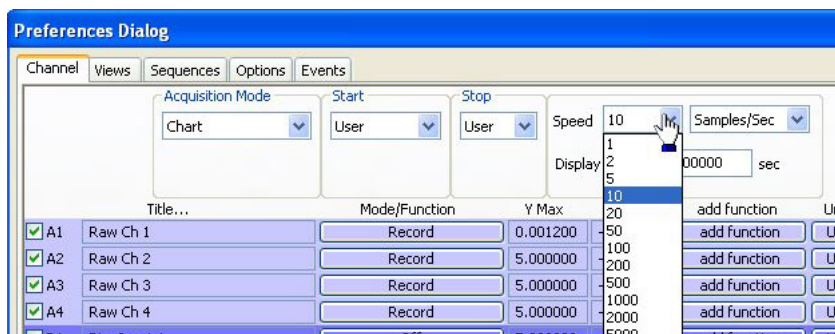

Fig. 37—Select number of samples from Speed drop down lists
- To change the basic default settings, open the **Preferences Dialog** window (Fig. 37) by selecting the **Edit** menu and choosing **Preferences (Right)**.
- Use the two **Speed** drop down boxes to select the number of samples (first drop down box) per unit of time (second drop down box). See Fig. 37. The sampling rate should be chosen to record fast enough to create a minimum of two to three points of data for the fastest signal expected when recording. For use with the **TBR4100/1025**, WPI recommends setting the speed between 10 and 20 samples per second.
- Set the **Display Time** to 60.0 seconds (**Fig. 37**). The elapsed sampling time displays at the bottom of the default LabScribe main window. This value determines the amount of time viewable in a single data frame, or the “width” of the display window.